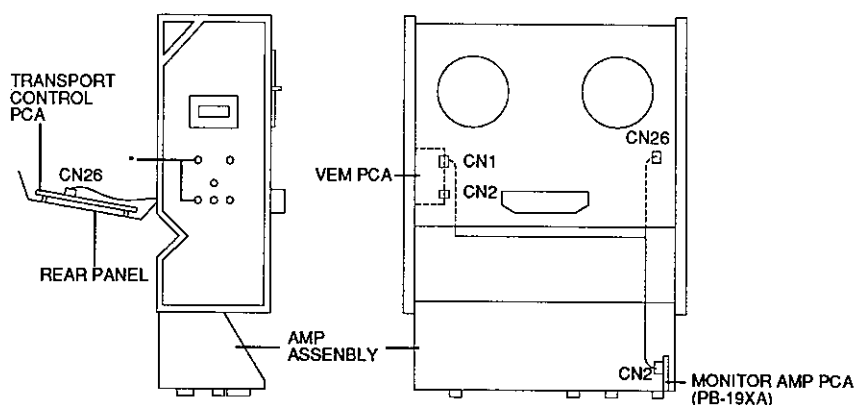

Figure 5-15
4. Attach the VEM PCB assembly to the left side frame using the two holes marked "*" in **Figure 5-15**. The component side of the PCB should face the rear of the machine.
7. Route the cable as shown in **Figure 5-15**.